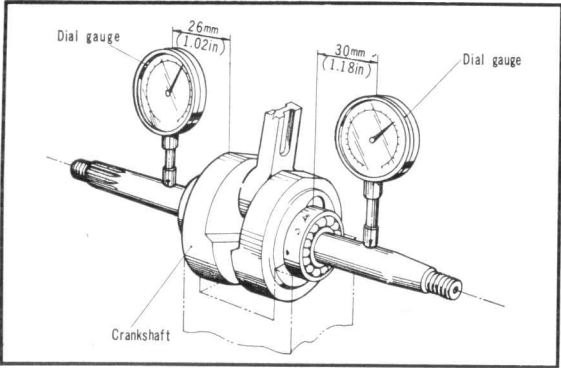

Figure 3-74. Measuring crankshaft alignment
- (1) Support the crankshaft on V blocks at both bearings and measure the amount of runout. (Fig. 3-74)